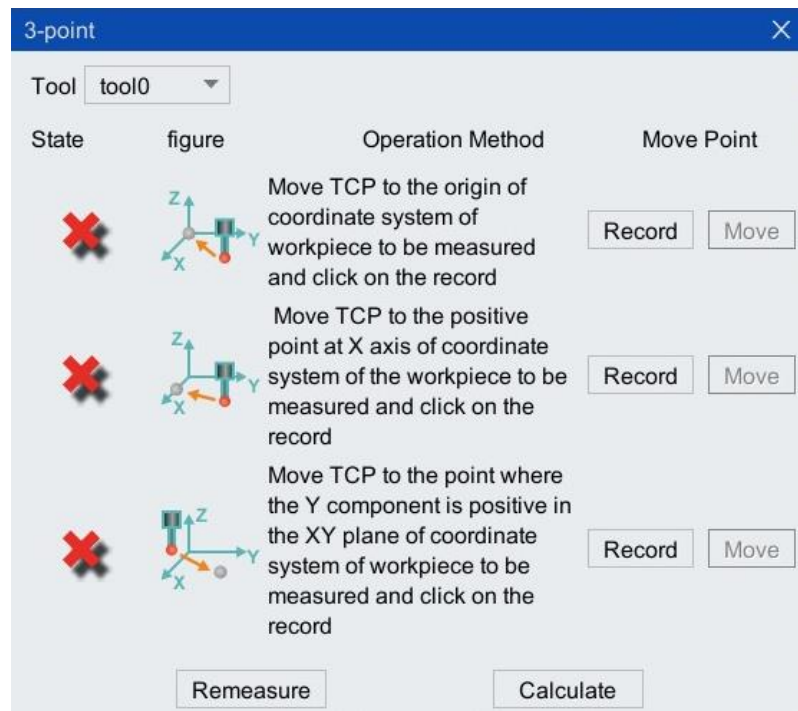

Figure 5-10 "Three-point method" calibration interface
Step12. Click <Yes>, and the 3-point calibration method interface shown in Figure 5-10 will pop up. [Tool] select the name of the previously calibrated tool coordinate system.